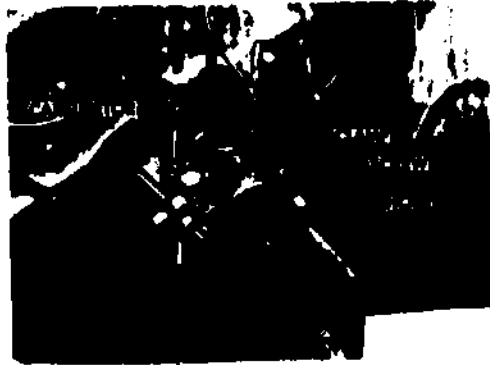

Fig 2-32. Loosening air intake hose.
a. **Removal.** Begin by loosening the air intake hose clamp and pulling the air intake hose from the carburetor. This is done so that you will be able to see the choke valve to determine its location when adjusting the new choke cable (fig 2-32).